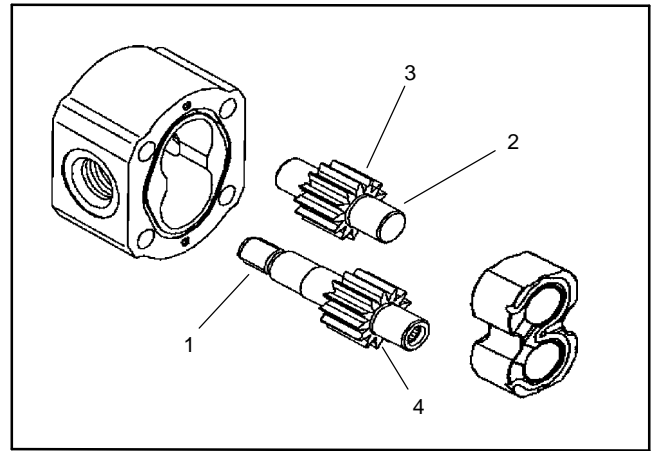

Figure 73
3. Inspect drive gears and idler gears for the following (Fig. 73):